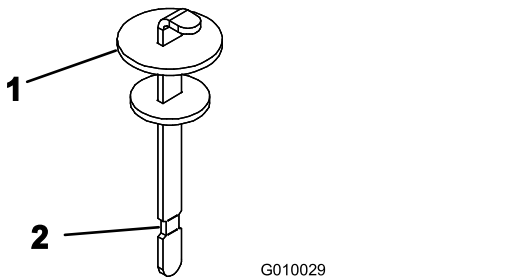

Figure 63
4. Remove the dipstick from the filler neck and wipe it with a clean rag. Insert the dipstick into the filler neck; then remove it and check the level of the fluid. The fluid level should be up to the mark on the dipstick (Figure 63).